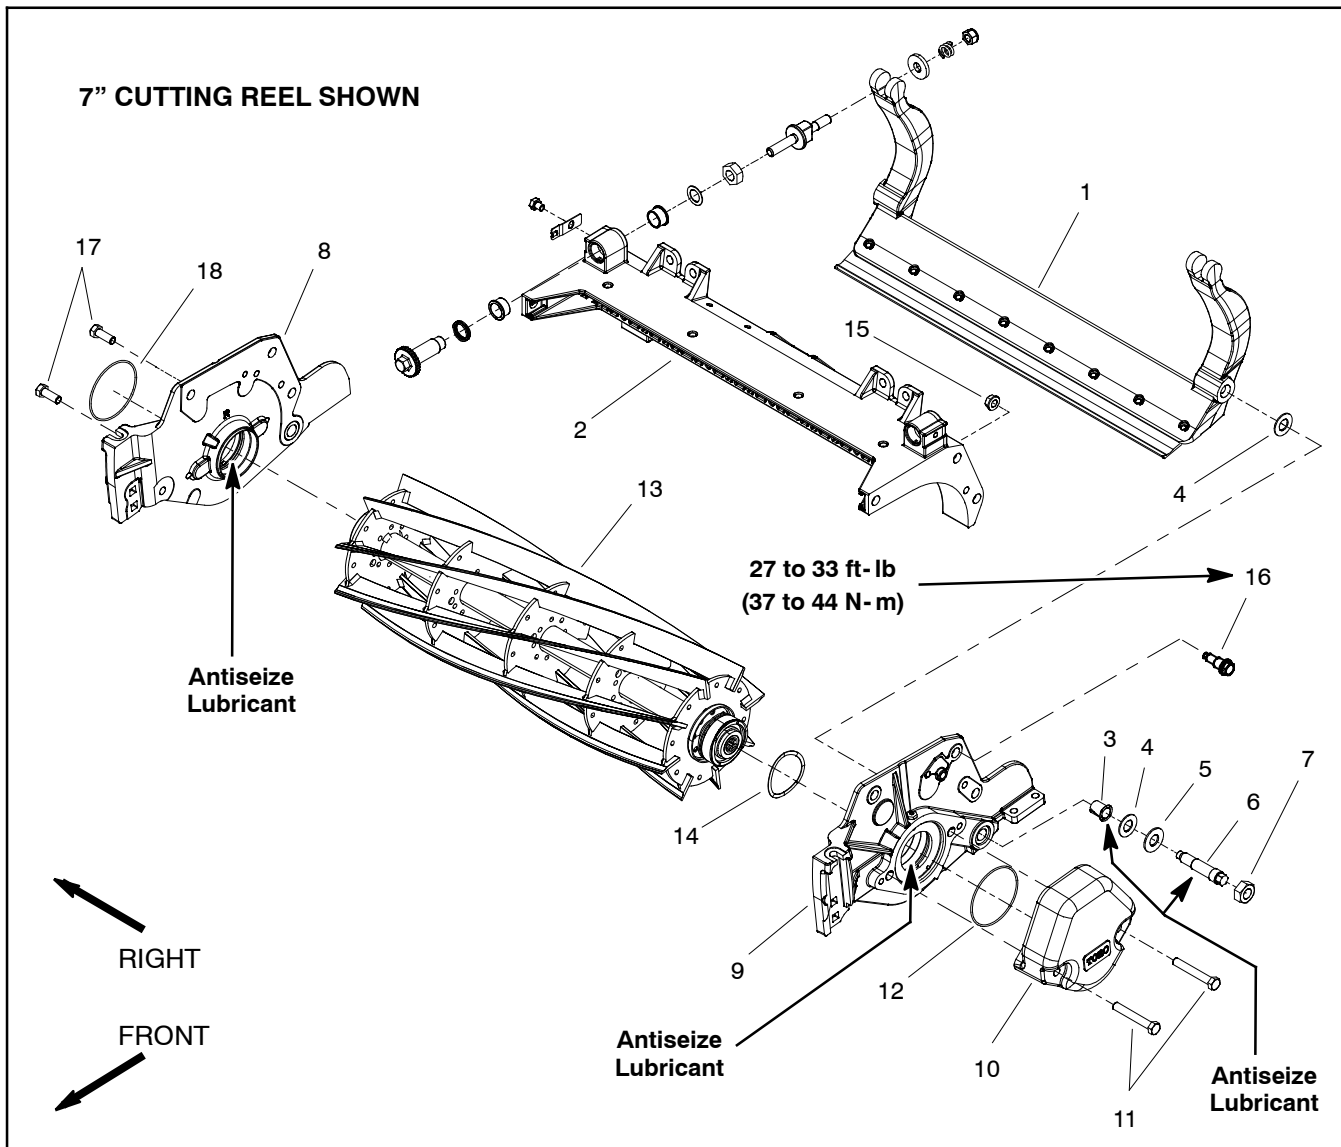

Figure 28
Reel Assembly Removal (Fig. 28)
11. Remove shoulder bolts (item 8) and flange nuts (item 24) that secure the LH side plate to cutting unit frame.
12. Carefully remove the LH side plate from the reel shaft, rollers, bedbar, carrier frame and cutting unit frame. Locate and remove flat wire spring (item 14 in Fig. 28).
Reel Assembly Installation (Fig. 28)